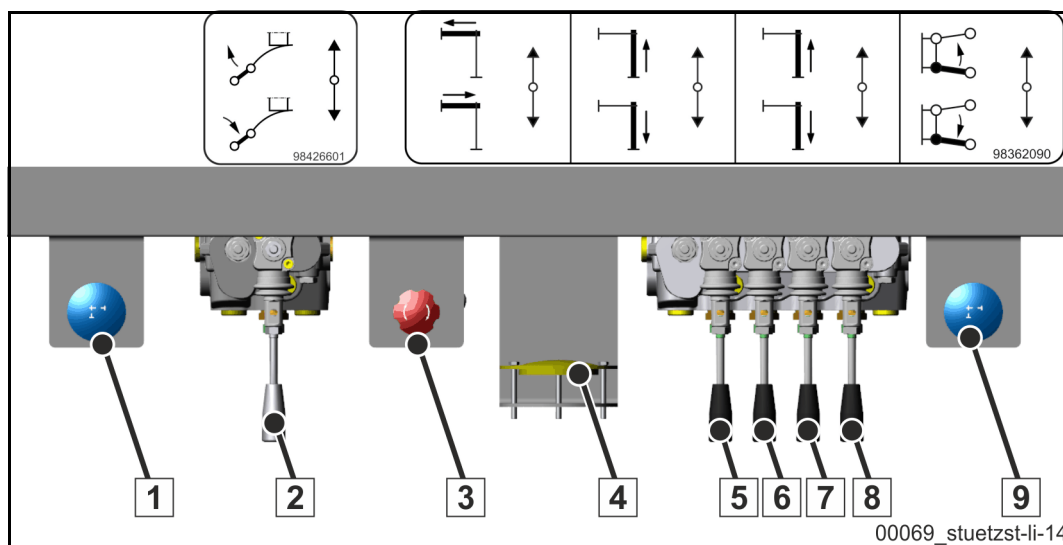

Fig. 149 Example: Outrigger control (S56SXF/S65SXF)
First, the folding element on the front bow outrigger has to be extended completely using the control lever (2) and the release button (1) (Fig. 149). Only then can the bow outrigger be extended horizontally.
Caption (Fig. 149)